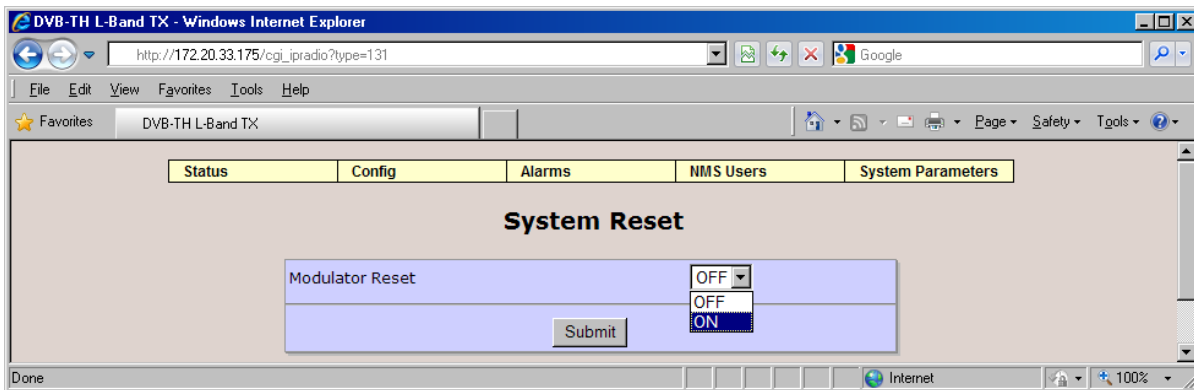

Figure 5-2 System Reset
6. Once the Network Parameters have been re-configured, navigate to System Parameters -> System Reset and reset the modulator – see Figure 5-2. **Note:** The modulator must be reset for Network Parameter changes to take effect.